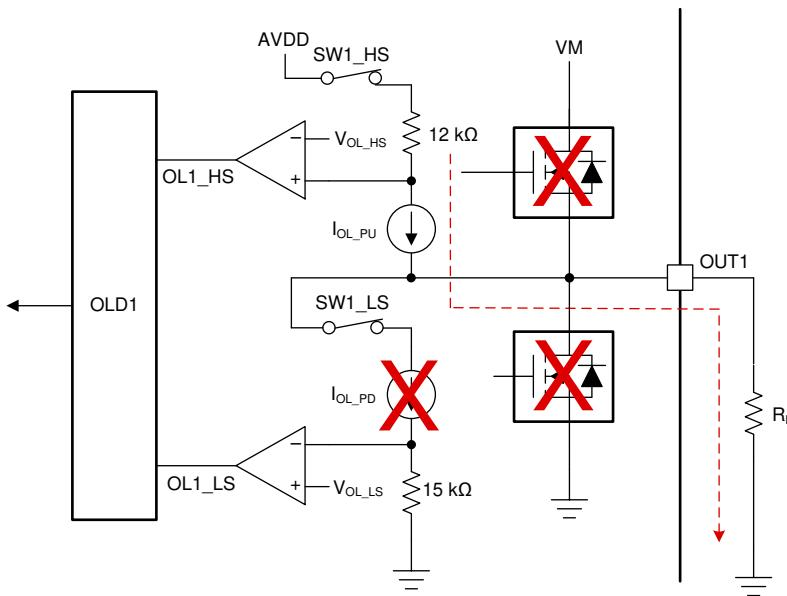
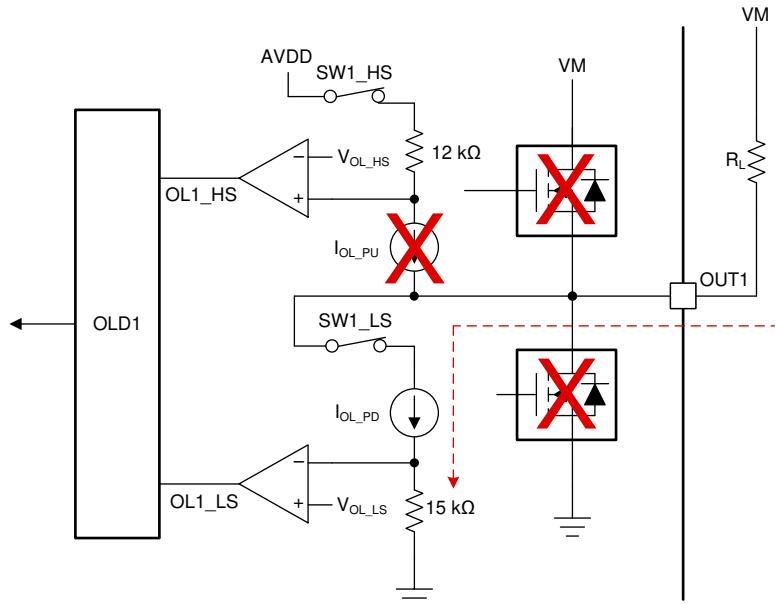

图 59. Open Load Detect Circuit for Load Connected to Ground (GND)
图 61. Open Load Detect Circuit for Load Connected to Supply Voltage (VM)
OLD circuit consists of four main components i.e. current source (and current sink), series sequencing switches (sequenced by the digital core), resistors and comparators. For ground (GND) connected load, the current source (I_{OL_PU}) pulls up the OUTx node to internal regulator voltage (AVDD) and allows the current to flow from internal regulator voltage (AVDD) to ground via the connected load as shown in 图 59. Moreover, for the supply (VM) connected load, the current sink (I_{OL_PD}) pulls down the current from supply voltage (VM) to ground via the connected load as shown in 图 61. The resistance of the load connected at the OUTx terminal will change the source / sink current and indirectly the voltage drop across two resistors (12-kΩ and 15-kΩ). This voltage drop across resistors is compared with the reference voltage (V_{OL_HS} and V_{OL_LS}) by the internal comparators to give the output as OL1_HS and OL1_LS. This comparator output is fed to the open load digital circuit to determine the open load condition.
图 59 shows the ground connected load with internal OLD circuit. When high-side open load sequence is activated (i.e. SW1_HS is on and SW1_LS is off), the current source (I_{OL_PU}) pulls up the OUT1 node to internal regulator voltage (AVDD) and current flows from internal regulator voltage (AVDD) to ground via the connected load (R_L). Now, depending upon if the load is present or not, there can be three cases as follows:
8.2.3.3 OLD for Supply (VM) Connected Load
图 61 shows the supply (VM) connected load with internal OLD circuit. When low-side open load sequence is activated (i.e. SW1_HS is off and SW1_LS is on), the current sink (I_{OL_PD}) pulls down the OUT1 node to supply voltage (V_{VM}) and current flows from supply (VM) to ground via the connected load (R_L). Now, depending upon if the load is present or not, there can be three cases as follows: